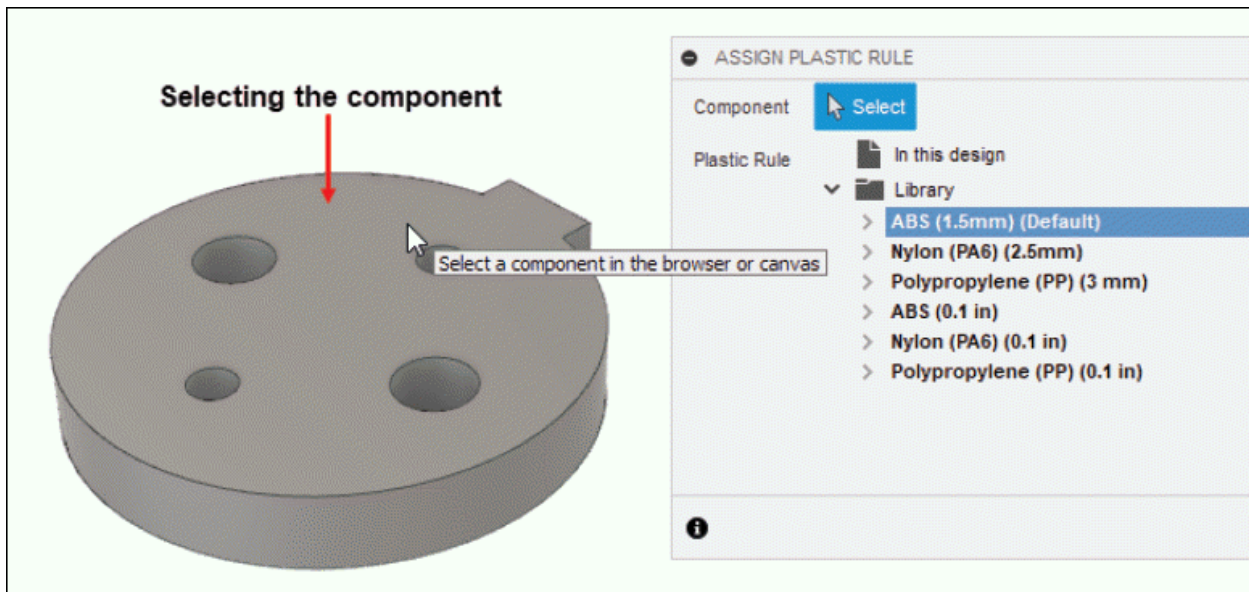

Figure-138. Selecting the component to assign plastic rule
- The **Select** button of **Component** section is active by default. Select the component in the Model Space that you want to assign the plastic rule; refer to Figure-138.